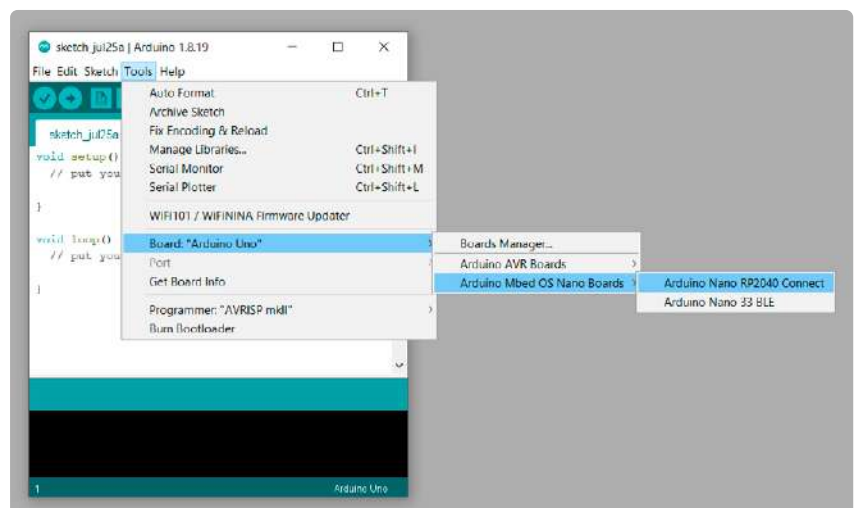

Figure 4: Before trying to upload anything to the board, make sure to select the right board (and its serial port!).
3. In the IDE, select the Arduino Nano RP2040 Connect board – see **Figure 4** (*Tools* → *Board* → *Arduino Mbed OS Nano Boards* → *Arduino Nano RP2040 Connect*).